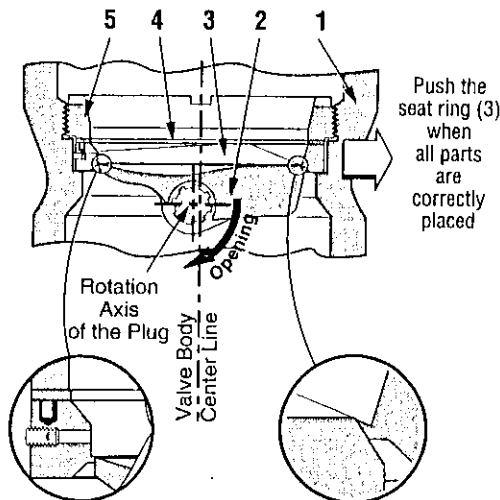

Figure 15
Caution: Lapping must be performed in the mounting position of the seat ring (see figure 15).
- B. Install seat ring (3) in the proper orientation. (Refer to Figure 15).
Caution: With the plug resting squarely on the seat, the plug bore should be in line with upper and lower guide bushings. Insure that the plug is in the correct position in relation to seat ring. See Figure 15 inverted.
- C. Remove the set screw (99) located on the seat using a 2.5mm male Allen wrench for the 3" and 4" seats, or a 3mm Allen wrench for seats greater than 4" (see figure 15). Apply a fine coat of sealing paste on the shoulder of the seat which enters into the body. Fit the seat ring (3) into the body while orienting its seal faces with that of the plug (see figure 15).
- F. Hand-tighten the seat ring retainer (5). Hand push the seat ring toward the opposite side of the index pin. (Refer to Figure 15).